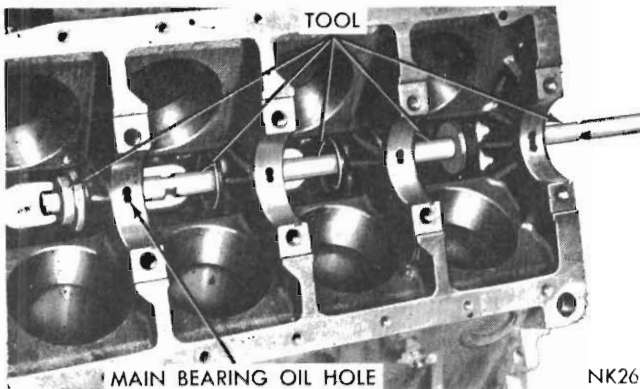

Fig. 25 - Removing camshaft bearings
- (1) With engine completely disassembled, drive out rear cam bearing welch plug.
- (2) Install proper size adapters and horse shoe lock washers at back of each bearing shell to be removed and drive out bearing shells (Fig. 25).